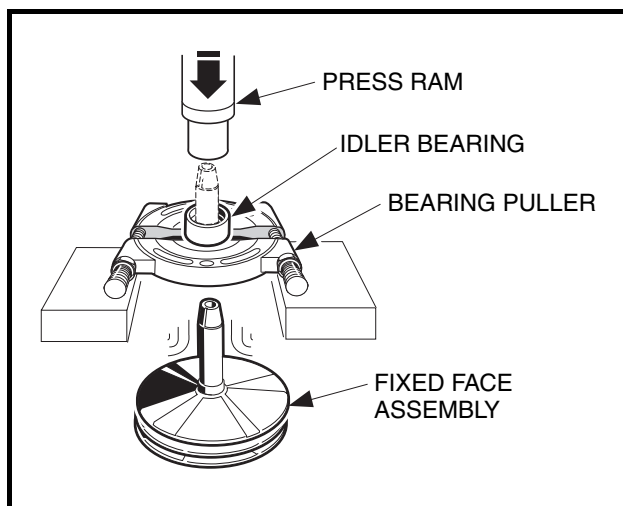

Figure 17-14 Remove Idler Bearing
8. If necessary, remove idler bearing. Use a press to remove the bearing (**Figure 17-14, Page 17-9**). See following **NOTE**.